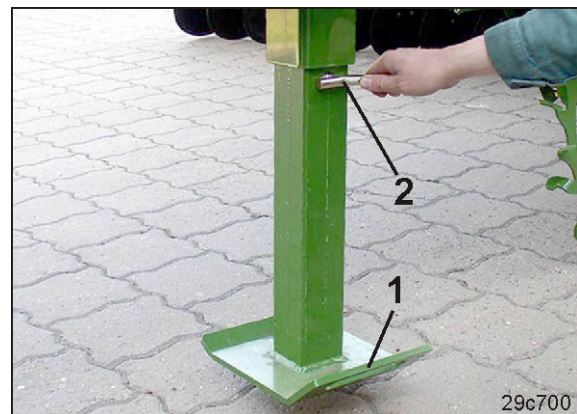

Fig. 108
8. Lift the tractor's lower link until the sustainer (Fig. 108/1) is free of the ground.
13. Hold the sustainer (Fig. 108/1) tight and remove the positioning bolt (Fig. 108/2).
14. Push up the sustainer by the handle (Fig. 108/1) and position it with the positioning bolt.